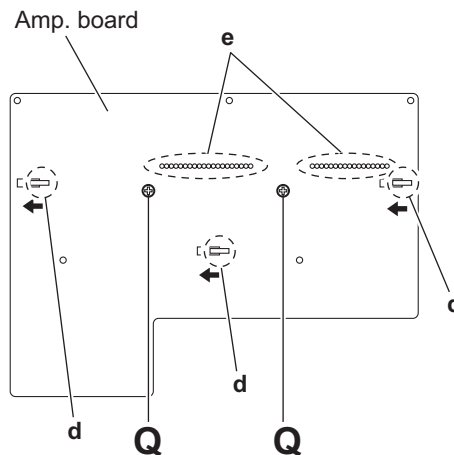

Fig.14
- From the bottom side of the amp. board, remove the two screws **Q** attaching the heat sink. (See Fig.14)
3.1.14 Removing the power IC (See Fig. 14)